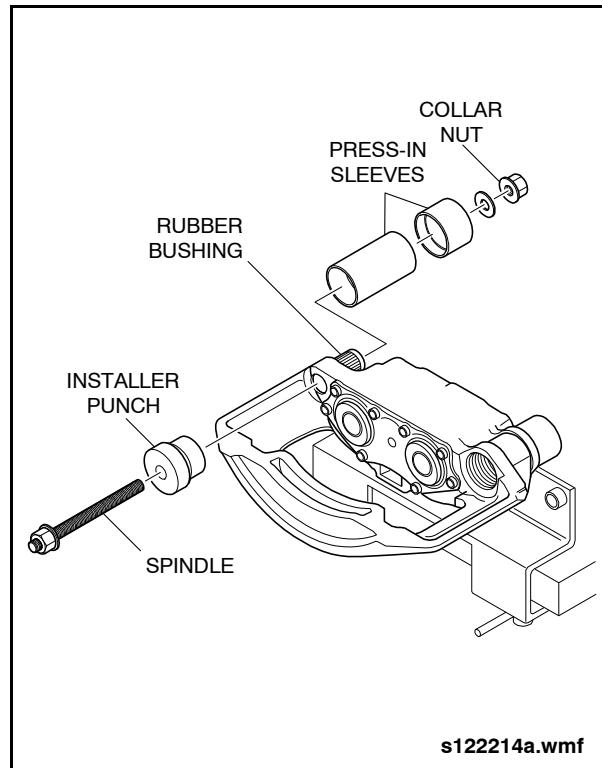

Fig. 2-128: Rubber Bushing Removal
- a. Assemble and install the installer punch, press-in sleeves, spindle, and collar nut (Items 72, 77, 75, 71, & 70 from special tools list). See "Fig. 2-128: Rubber Bushing Removal" on page 112.